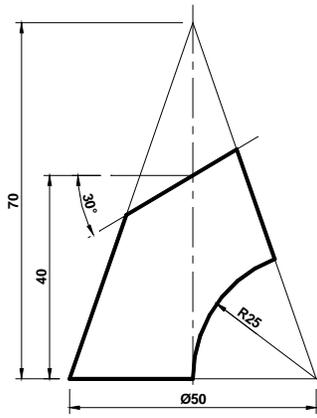

Figure-3
- (b) Draw the development of surfaces for Figure-3 **07**